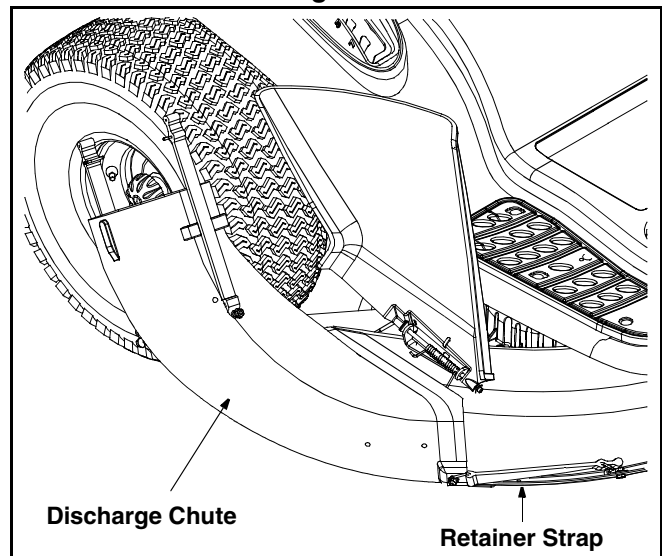

Figure 6
3. Place the top edge of the discharge chute in position over the chute opening on the deck, then push down on the discharge chute so the front edge fits snugly around the cutting deck opening. See Figure 6.
4. Fasten the discharge chute in position by hooking the retainer strap over the retainer clip found on the front lip of the cutting deck. See Figure 6.